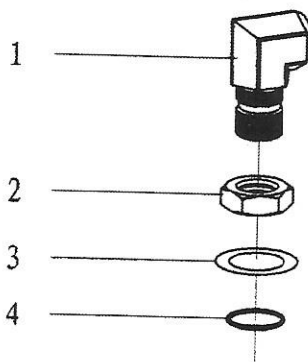

Fig. 18
15. Bend sub (NPT1 1/4-1 5/8-12UN) (Fig18, Table 15)